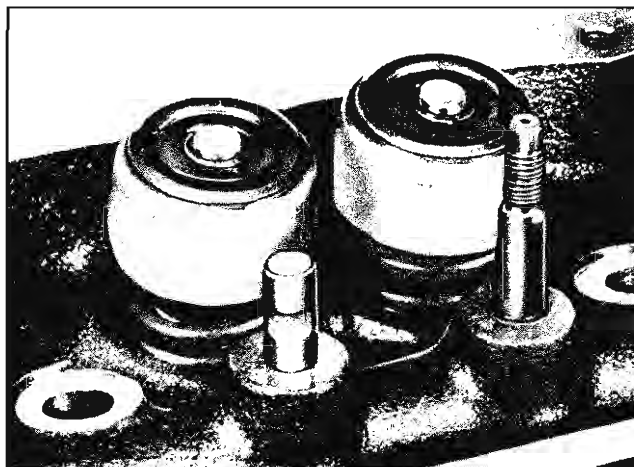

Fig. 6-27 Slots Filed in Rocker Arm Stud
2. With rocker arm removed, file two slots  $\frac{3}{32}$ " to  $\frac{1}{8}$ " deep on opposite sides of rocker arm stud (Fig. 6-27). Top of slots should be  $\frac{1}{4}$ " to  $\frac{3}{8}$ " below thread travel.